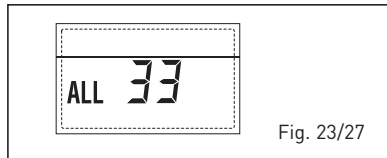

Fig. 23/27
- ANOMALIE COMMUNICATION CARTE RS-485 EN MODE CASCADE "ALL 34" (fig. 23/28)